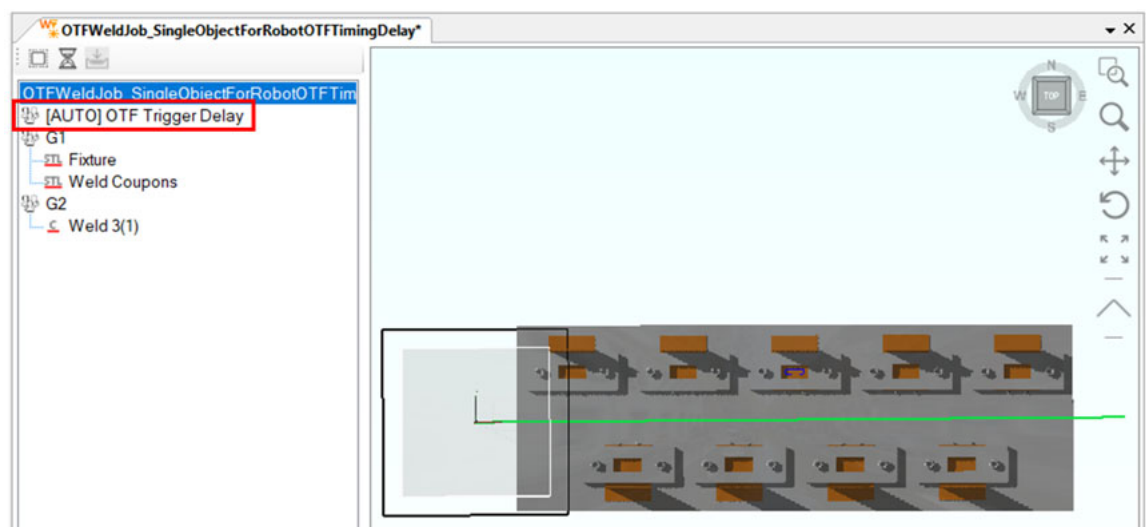

Figure 315: Auto Generated Group and Trajectory Color Change
- Once the OTF Trigger Delay is entered, users will notice that the robot trajectory is a different color and that a Group is automatically generated in the Job Tree. See Figure 315 (below).